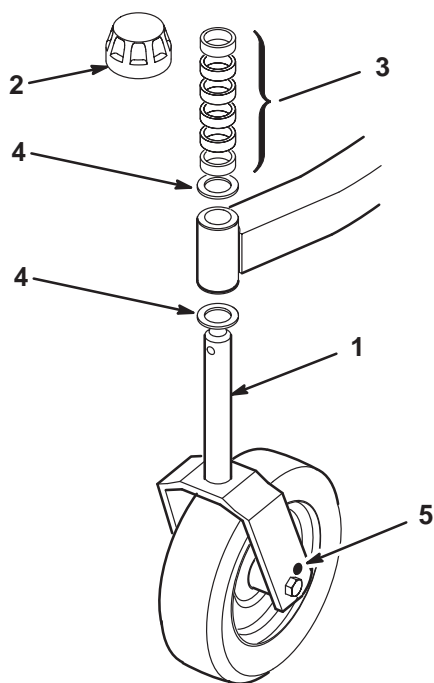

Figure 10
2. Drill out the 0.438 in. diameter holes (Fig. 10 and 11) in each side of the castor forks to 0.50 in. or 0.516 in. diameter.
1. Remove the tensioning cap from the spindle shaft and slide the spindle out of the front castor arm. Remove the washer from the spindle shaft. Slide the spacers onto the spindle shaft to get desired the height-of-cut, then slide the washer onto the shaft (Fig. 10).
2. Push the castor spindle through the front castor arm, install the other thrust washer and remaining spacers onto the spindle, and install the tensioning cap to secure the assembly (Fig. 10).